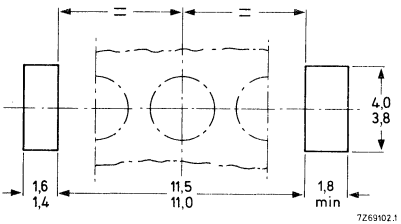

Fig. 4 Heatsink requirements.
2. Push the short end of the clip into the narrow slot in the heatsink with the clip at an angle of 10° to 30° to the vertical (see Figs 4 and 5).